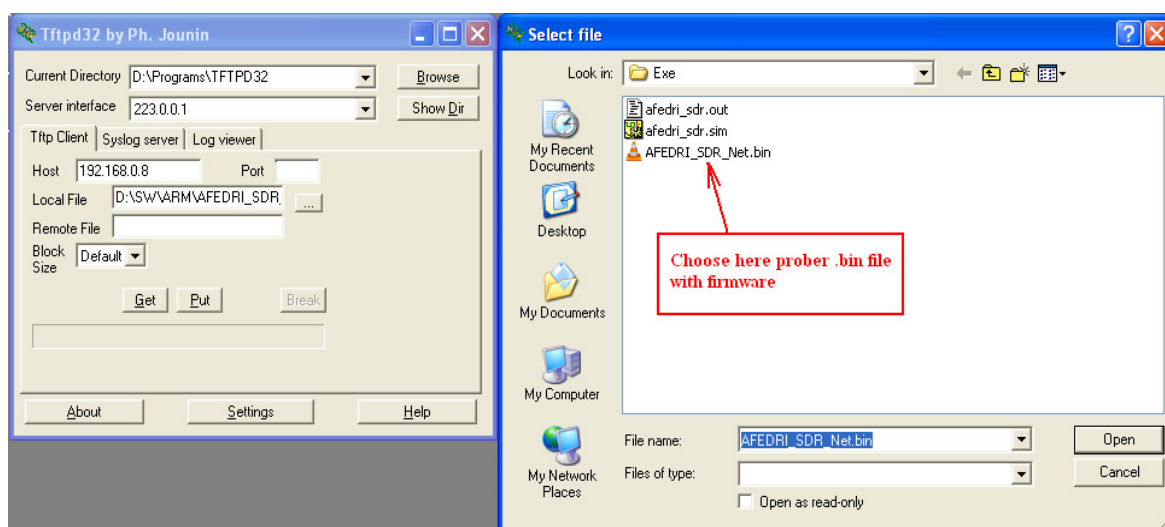

Figure 10 Tftpd32 utility, “Select File” dialog
3.1.6. To choose firmware file (it has .bin extension), press button “Local File” and find firmware file in “Select file” dialog that is appearing after the button was pressed. (see Figure.10)